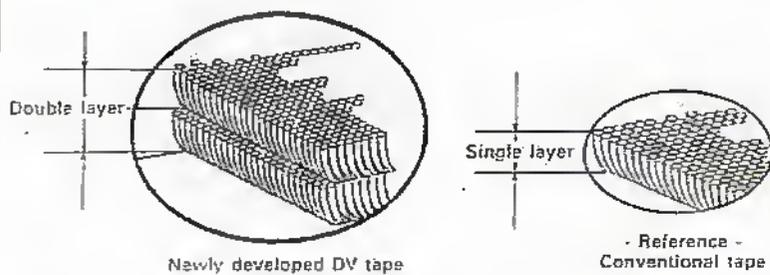

Figure 7. Double coated metal evaporated tape. The digital signal is recorded on two vapourated thin layers to give a powerful output and lower noise.
Recently, there has been a trend towards applying double layers of magnetic material to cope with the different frequencies and their depth of penetration into the magnetic medium. In VHS-S-VHS the recorded signals are, in descending order of frequency and penetration depth, video on an FM carrier, depth multiplex audio on two FM carriers, direct recorded colour under, and linear audio. The upper layer therefore uses fine particles to accommodate the high and mid-range frequencies, and the lower layer has larger particles for the low frequencies. Fuji was the first to achieve this, and is still the only manufacturer to coat the two layers simultaneously (a technique borrowed from their colour film production). 8mm Hi8 does not use depth multiplex audio recording with separate heads but records FM (or PCM) audio through the video heads. Although linear audio is specified it is never used because the magnetic layer of MP and, more so, ME is too thin to give an adequate S/N ratio. Fuji has also applied double coating technology to produce a tape for Hi8 that combines the durability of MP with the enhanced performance of more expensive ME tape. In this case a thin upper layer of fine magnetic particles is applied over a layer of non-magnetic spherical titanium particles about one-sixth the size of the former. This rough layer provides the foundation for an extremely smooth surface layer which, after high pressure calendaring, is packed down to just $0.3\mu\text{m}$. This high packing density provides the low and mid-range response that complements the high frequency performance provided by the thin layer and smooth surface. It was originally named Super Double Coating, but now goes by the name of Advanced Super Thin-layer and high-Output Metal Media - ATOMM, for short. Digital recording requires greater recording densities and bandwidth than analogue recording. For its Digital Video (DV) tapes Sony has introduced a double ME tape (Figure 7).